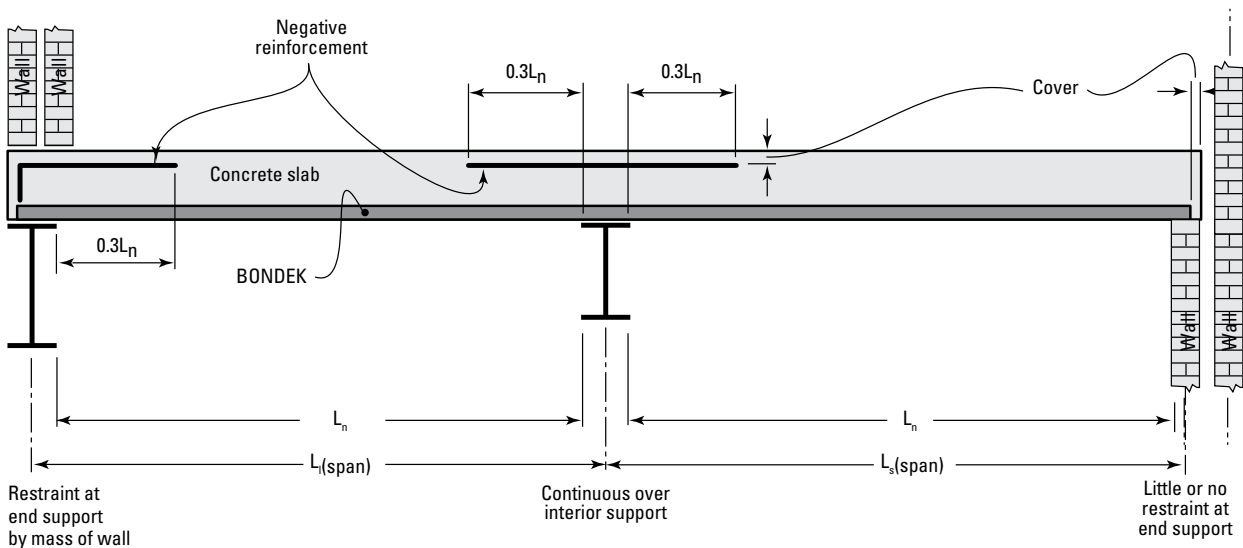

Figure 4.1
12. Detailing of conventional tensile reinforcement over negative moment regions shall be arranged in accordance with the Figures 4.1 and 4.2. Refer to AS 3600:2009, Clause 9.1.3 for more information on detailing of tensile reinforcement in one-way slab.